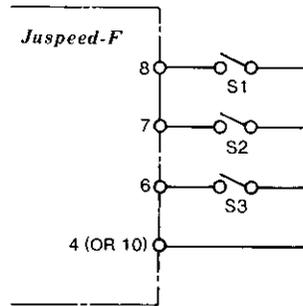

Fig. 10 Connections of External ON/OFF Switches for Multispeed and Low-speed Limit Operation
Terminals for contact input for multispeed or low-speed limit operation. See Fig. 10. Set the operation mode selector switch (DS1) ② to select multispeed or low-speed limit operation: ON for Low-limit, OFF for multispeed. Then, set the operation frequency by setting the external switches S1 to S3 ON or OFF referring to Table 4.